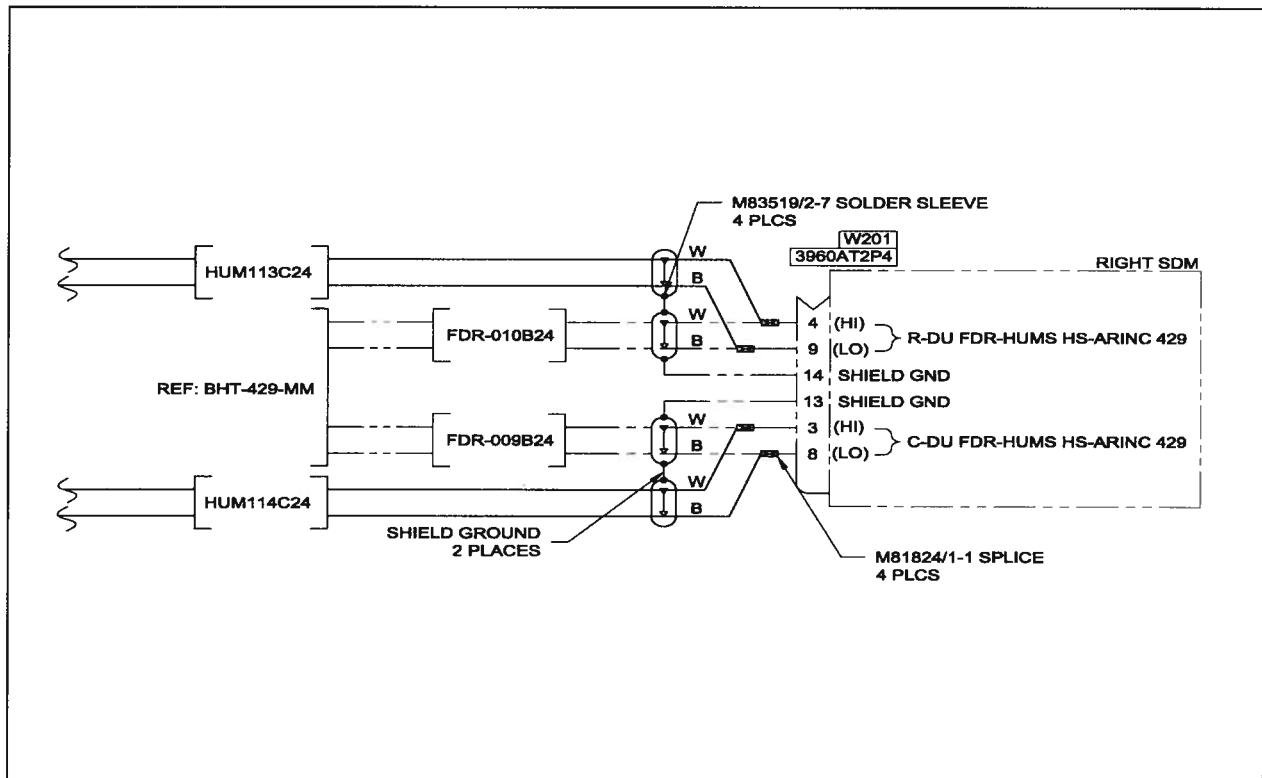

FIGURE 2 – HUMS-CV/FDR INTERFACE – RIGHT SDM
- 2.5 Add Solder Sleeves (M83519/2-7) and Shield Grounds to new CV/FDR wires as shown in Figure 2.
- 2.6 Splice wires into CV/FDR wiring with Splices (M81824/1-1), as shown in Figure 2.
- 2.7 Pin CV/FDR wires and Shield Grounds in Connector (3960AT2P4), as shown in Figure 2.